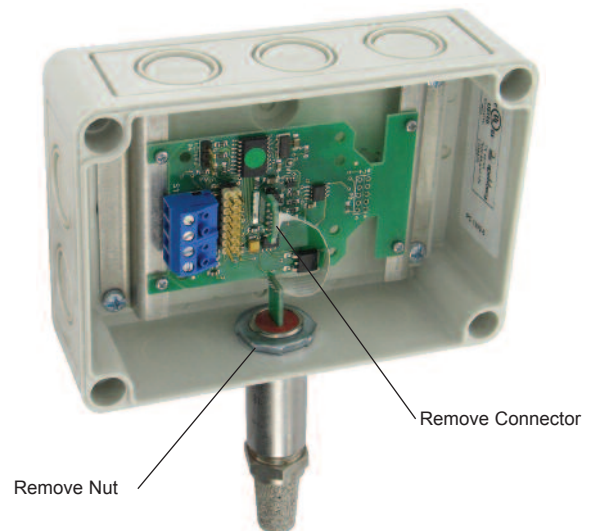

Figure 7
2. Refer to Figure 7, remove connector from socket on circuit board.